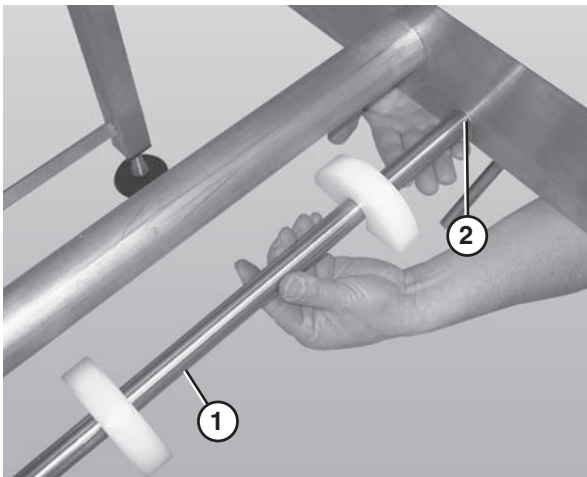

Figure 60
1. Remove the belt returns by pushing up on the return shaft (**Figure 60, item 1**) and sliding it through the large hole (**Figure 60, item 2**) in the frame.
2. Lower the opposite end of the return shaft (**Figure 60, item 1**) and slide it out of the frame.